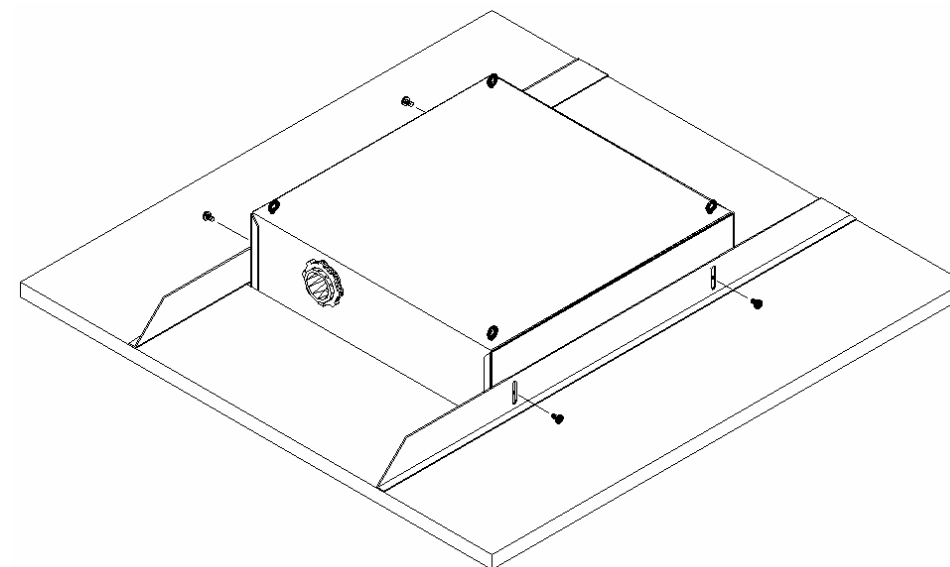

Figure 3 - Installation to ceiling tile.
Step 3 – Lay ceiling tile over the enclosure assembly such that the previously cut opening in the ceiling tile is equally spaced around the outside of the enclosure (ref. *Figure 3*). Place the ceiling tile bridges along each side of the enclosure and attach using a #8-32 screw. Prior to tightening, be sure to properly align the tile bridges so the ends of the tile bridges align with the outside edge of the ceiling tile. Once the tile bridges are properly aligned, press the shoulder of the tile bridge down firmly against the tile and then securely tighten the screws. This is to assure that there is minimal gap between the enclosure's flange and the ceiling tile once it is placed in the ceiling.